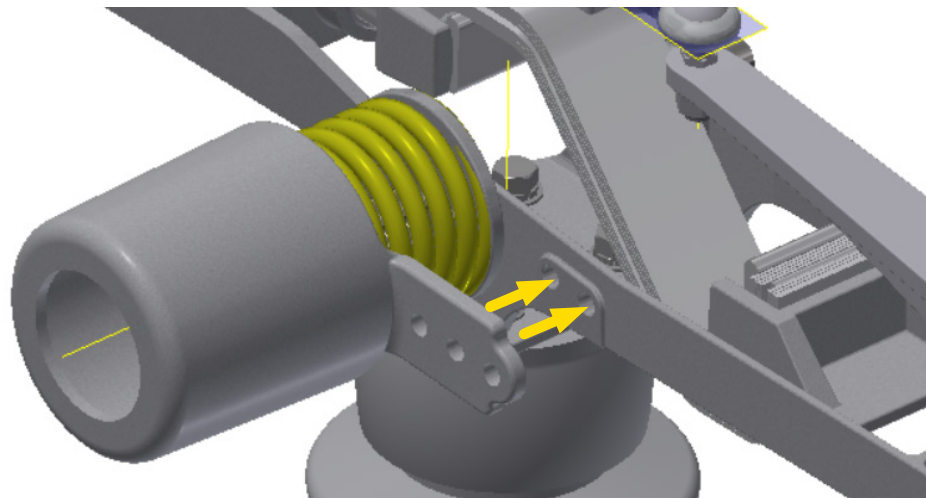

Figure 19. Spring Cover Installation
8. Slide the Cover over the assembly, aligning the first two holes on the mounting tab to the threaded holes in the Hinge (Figure 19).